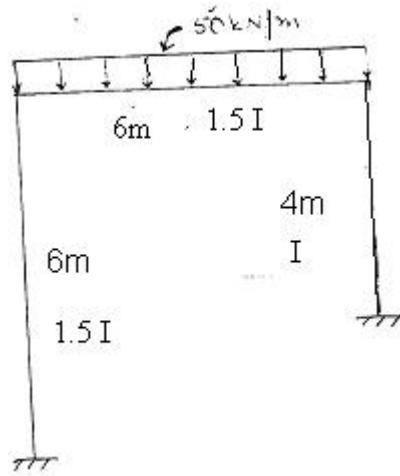

Figure 4
- 14 Analyse the portal frame shown in figure 4 and draw B.M.D. (10)